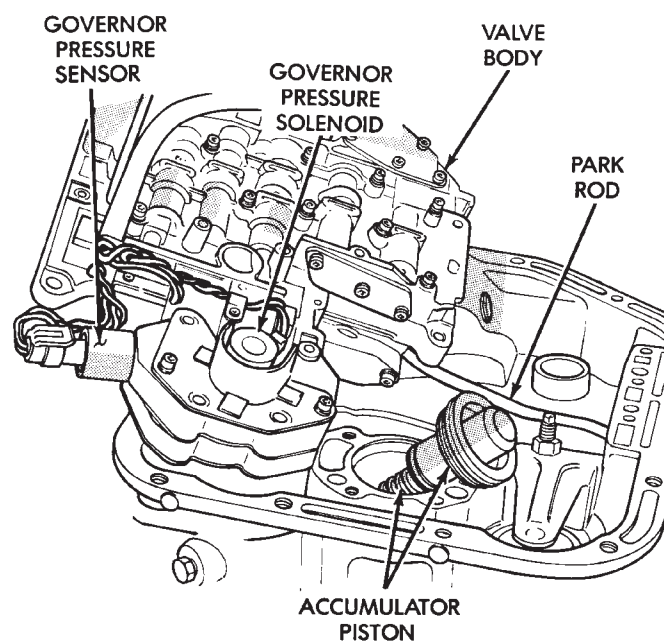

Fig. 124 Accumulator Piston And Springs
(30) Install accumulator piston and inner and outer springs (Fig. 124).
(31) Verify that valve body solenoid harness is secured in 3-4 accumulator housing cover plate.
(32) Install valve body as follows: